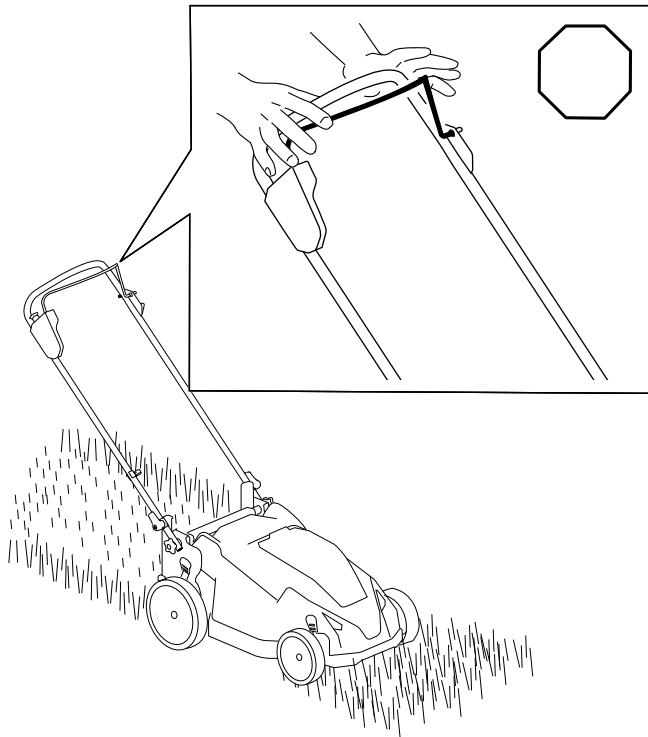

Figure 16
1. Release the blade-control bar (A of Figure 16).